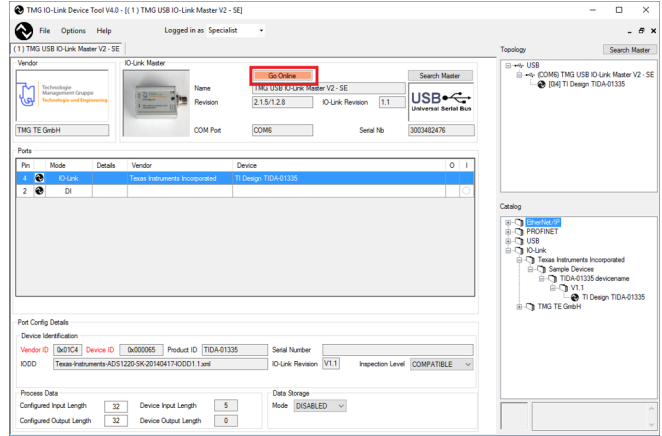

图 15. IO-Link Master GUI 4
4. Go to the Vendor and Device information in the IO-Link row. Click on the "Go Online" button to establish a connection between the PC and the IO-Link master. If successful, the color of the button turns green (see 图 15).